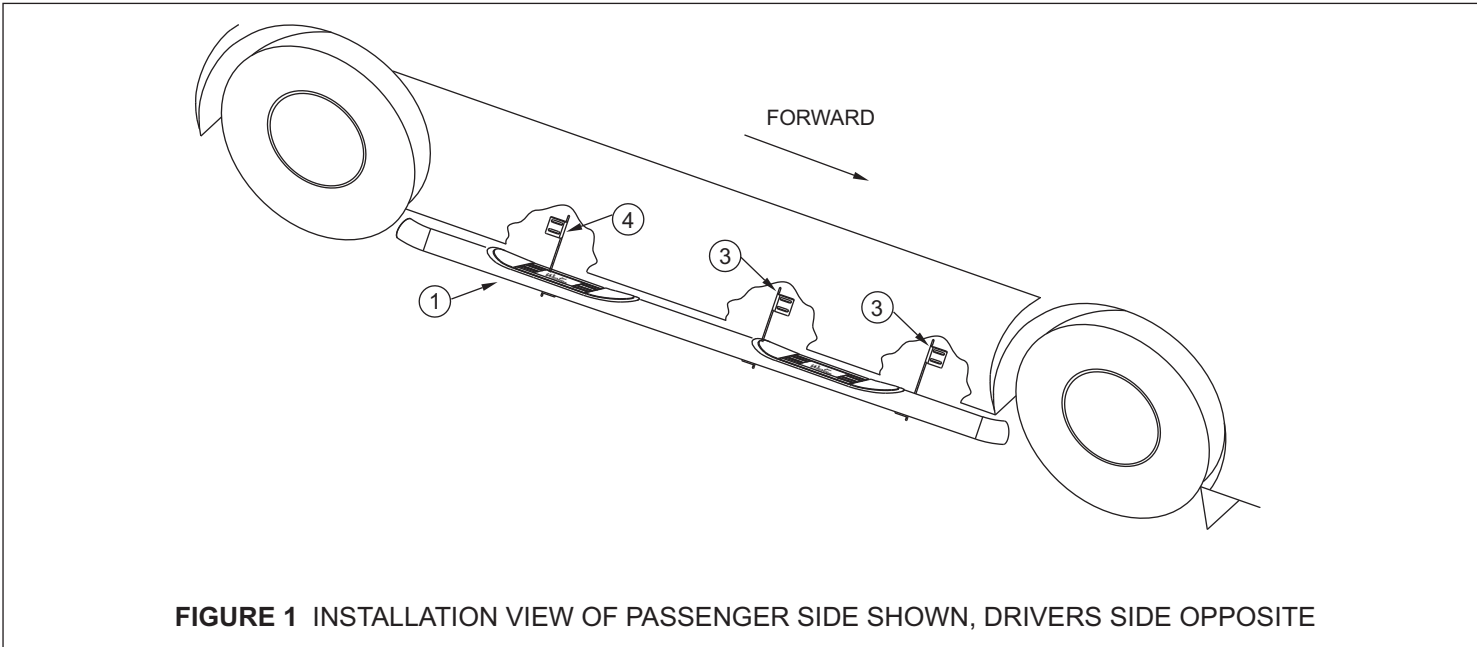

FIGURE 1 INSTALLATION VIEW OF PASSENGER SIDE SHOWN, DRIVERS SIDE OPPOSITE
- STEP 2. Determine bracket locations for passenger front/driver rear and driver front/passenger rear brackets. **SEE FIGURES 1 AND 2.**